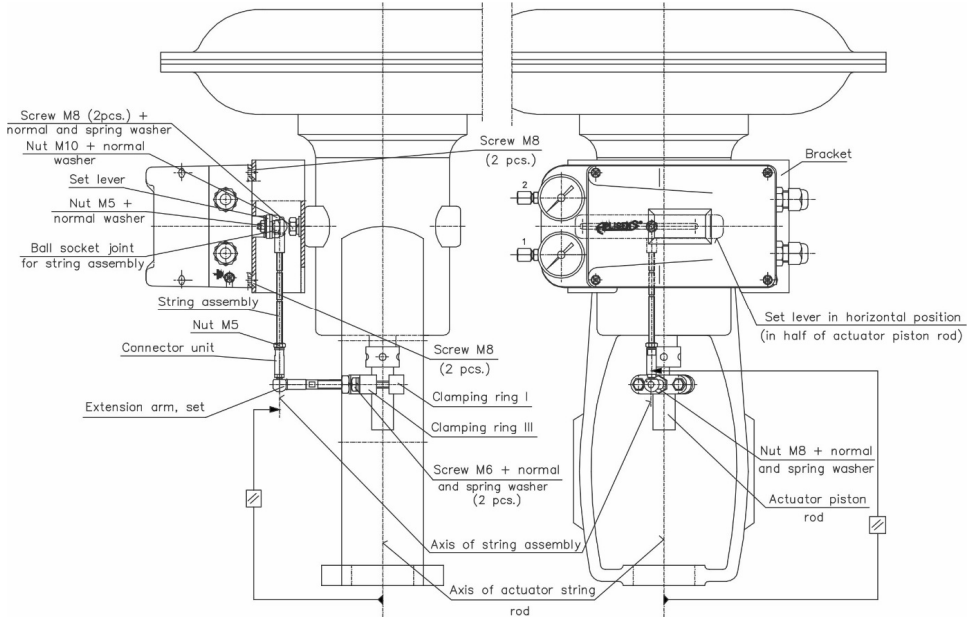

Fig. 5. Positioner APIS-1X0... with mounting kit APIS-A0001-SS or SO (positioner installed on yoke actuator type 37 or 38 manufactured by Polna S.A.).
- b) Install the ball-and-socket joint on setting lever of the positioner in place corresponding to stroke of the actuator and tighten M5 nut (see Fig. 5 and 6)
- i) Screw extension arm set into clamping ring III; then adjust its length and move whole positioner in relation to the positioner using longitudinal cut-out for fixing screws in a mounting bracket to ensure that lever set (installed later) is parallel to actuator piston rod. If the extension arm is too long it should be cut to the required length (see Fig. 5 and 6).